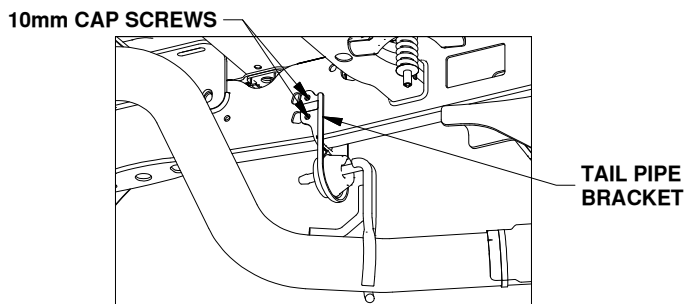

Figure A3: View looking at the tail pipe on rear passenger side of frame.
7. **Optional, lower the tail pipe.** On some trucks installation may be easier if exhaust is detached and the tail pipe lowered. Un-attach the tail pipe bracket just behind the rear passenger side tire, see Figure A3. Re-attach the tail pipe bracket after installation is complete.